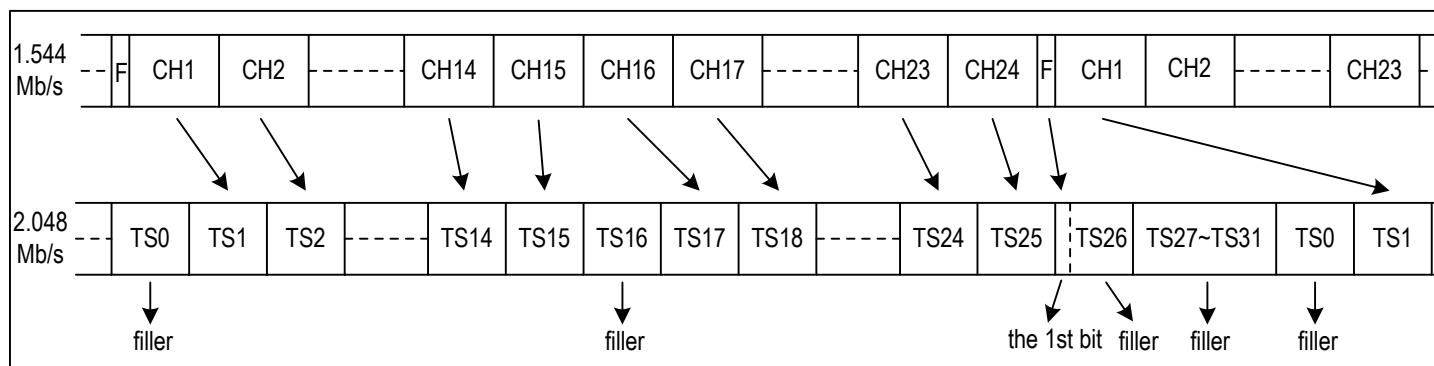

Figure 18. T1/J1 To E1 Format Mapping - G.802 Mode
- T1/J1 Mode E1 Rate per G.802 (refer to Figure 18): Channel 1 to Channel 15 of Frame N from the device are converted into TS1 to TS15 of Frame N on the system side; Channel 16 to Channel 24 of Frame N from the device are converted into TS17 to TS25 of Frame N on the system side. The F-bit of Frame N from the device is converted into the first bit of TS26 of Frame (N-1) on the system side. TS0, TS16, TS27~TS31 and the other 7 bits in TS26 on the system side are all filled with '0's and they are meaningless.